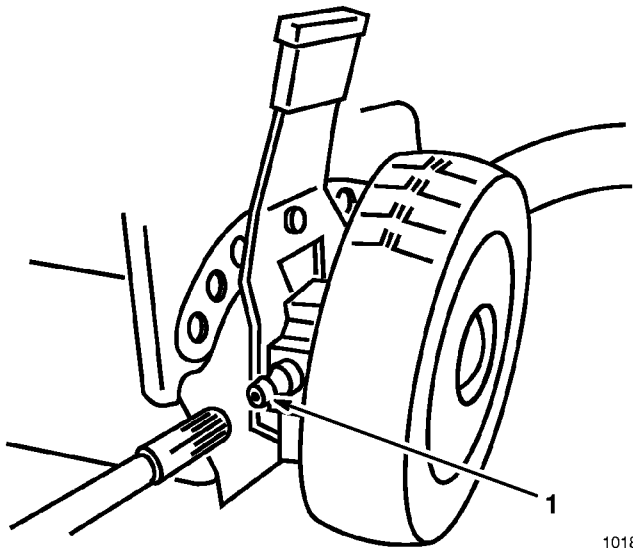

Figure 32
1. Wipe grease fittings on rear height-of-cut adjusters (Fig. 32) with a clean rag.